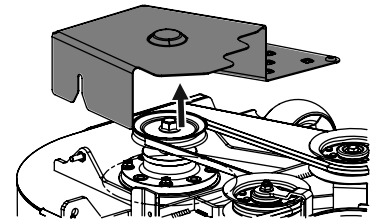

Figure 54
3. Remove the belt covers from the deck. See Figure 54.